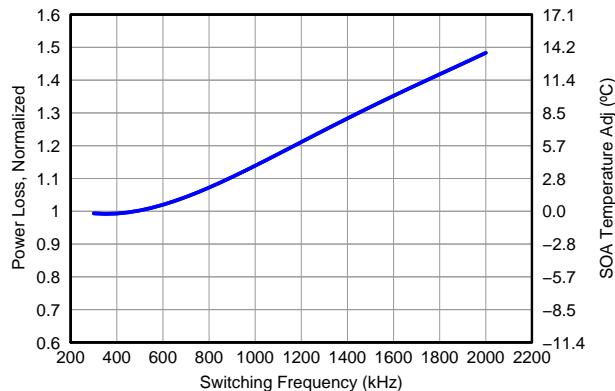

Figure 12. Normalized Power Loss vs Frequency
- Normalized Power Loss for switching frequency  $\approx 1.08$  (Figure 12)
- SOA adjustment for switching frequency  $\approx 2.6^{\circ}\text{C}$  (Figure 12)